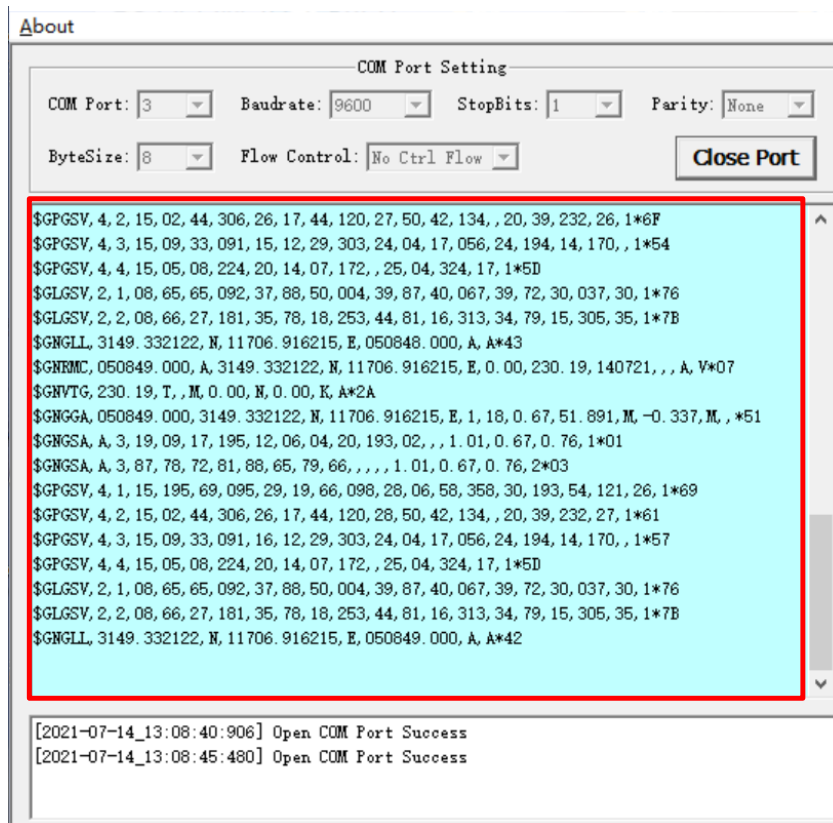

**Figure 5: COM Port Setting Interface of QCOM**
**Step 8:** Click “Open Port” as shown in **Figure 5** above, then the communication with EVB is established successfully. In this case, the NMEA sentences output by the module will be displayed through the QCOM tool, as shown in **Figure 6** below. For more information about QCOM usage, see **document [1]**.